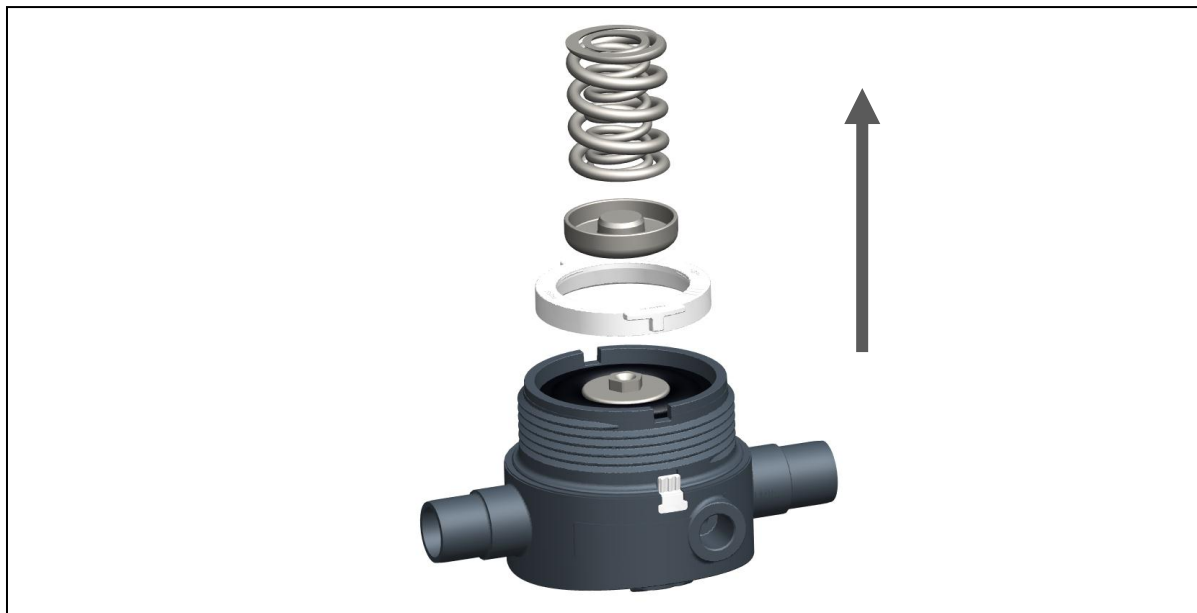

Fig. 8
- Remove thrust piece, springs and retaining ring, see Fig. 8